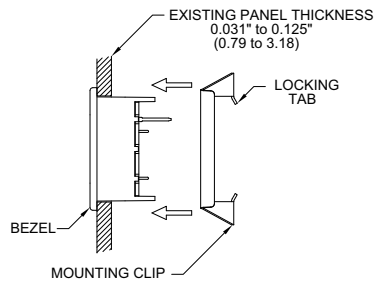

Figure 1
2. Install MDMU through the panel cutout as shown in Figure 1.